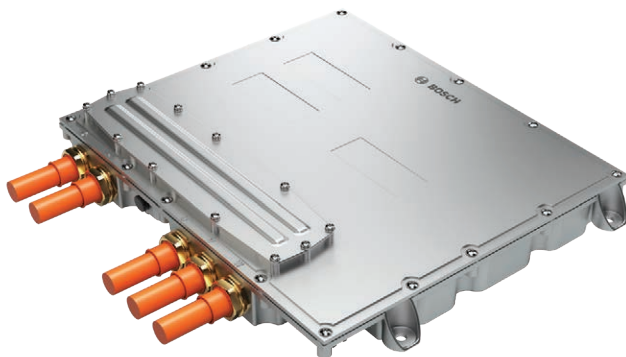
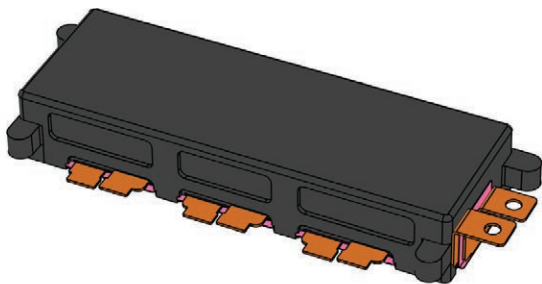

FIGURE 1 A Bosch three-phase inverter for automotive drivetrains.
FIGURE 2 A typical DC link capacitor, with a battery interface on the right and transistor connectors on the front.
As the automotive industry races toward an electrified future, Bosch is accelerating its R&D into the essential building blocks of electric drivetrains. One of these components is the inverter, which changes direct current (DC) from the car's batteries into alternating current (AC) to power its drive motor (Figure 1). The inverter's ability to provide a smooth flow of current depends on its integral DC link capacitor (Figure 2). "The capacitor is one of the most expensive components of the inverter. Its performance has a direct impact on the performance and reliability of the inverter, which is fundamental to the operation of the drivetrain," explains Martin Kessler, Bosch senior expert for automotive electronics.